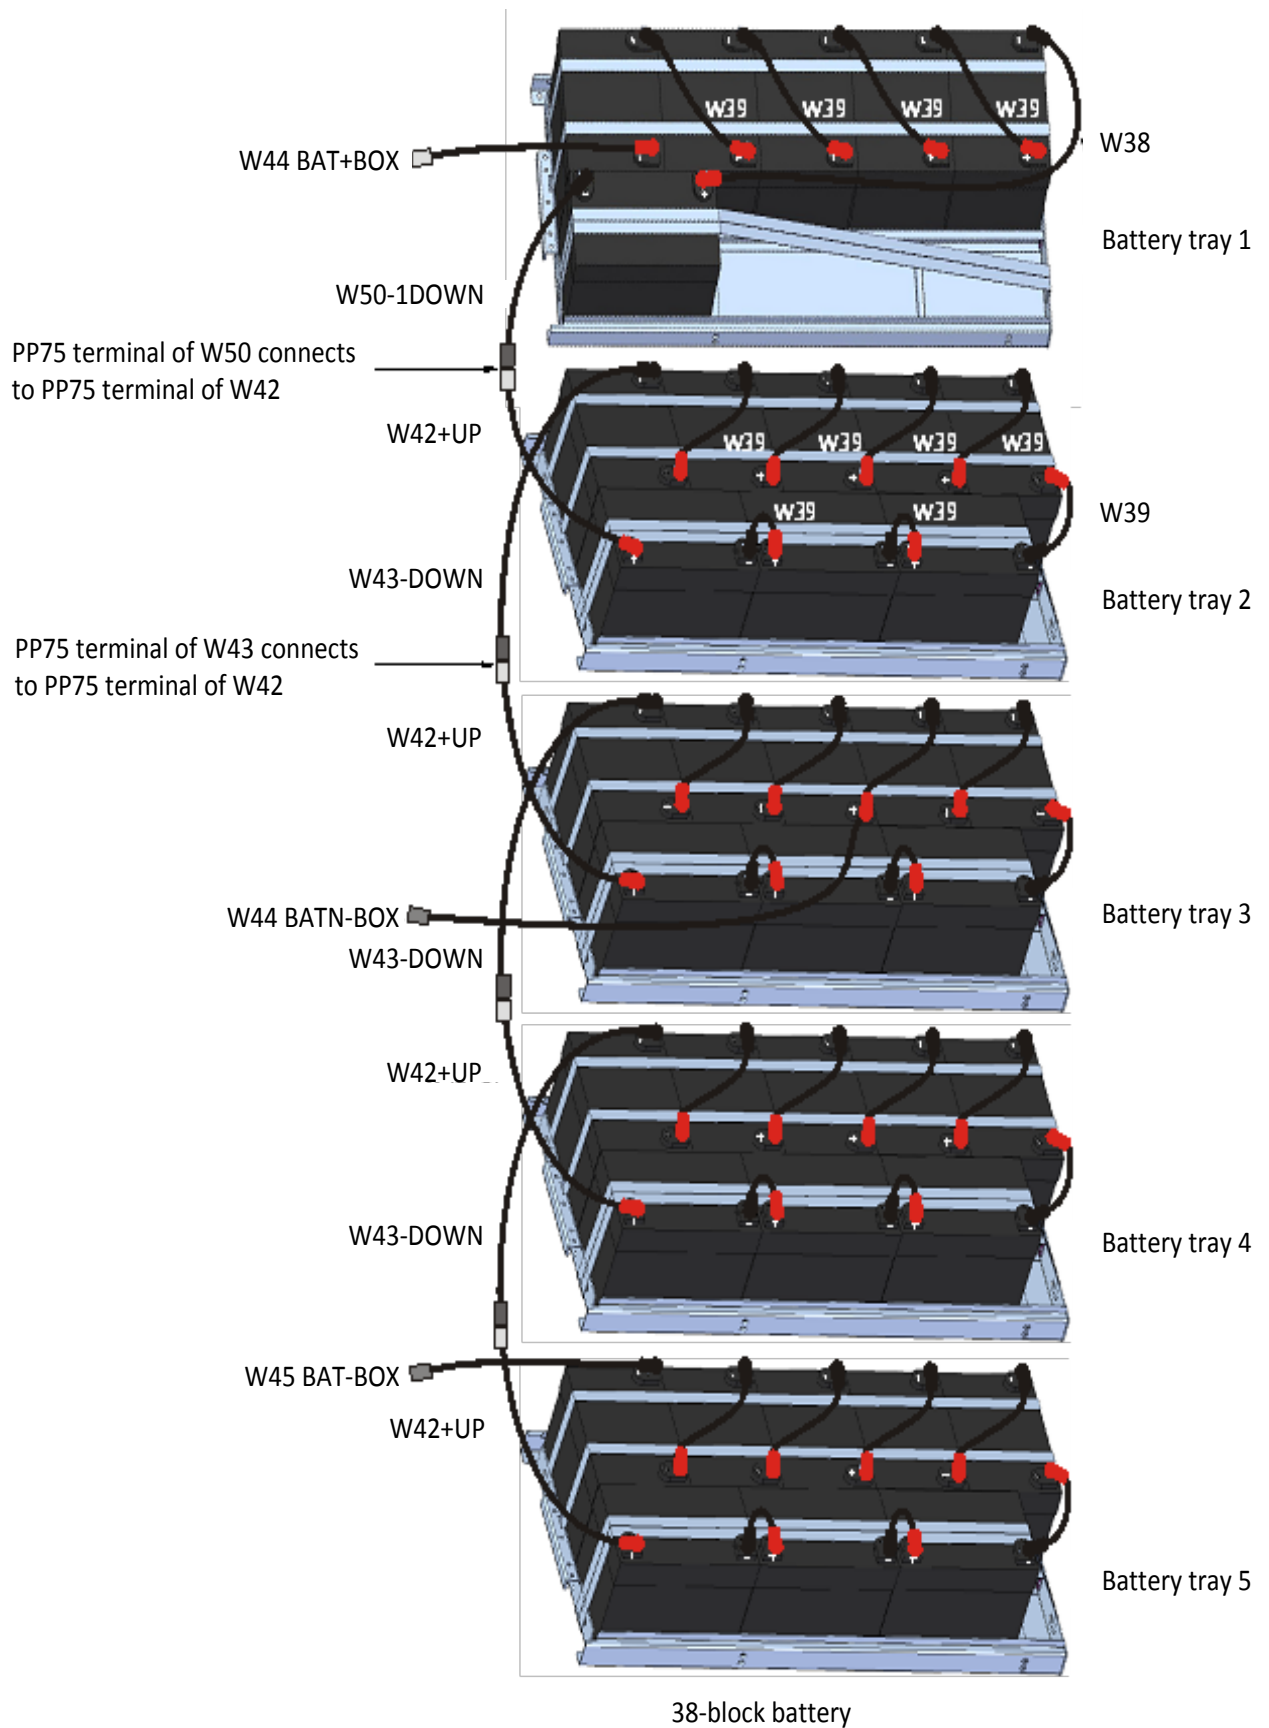

Figure 6-1 Connection for internal batteries
8. See Figure 6-1 for battery connection.